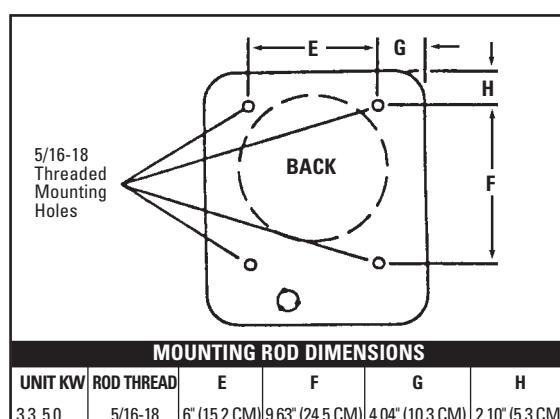

Figure 7. Vertical discharge rod spacing
1. Install four 5/16-18 threaded rods into the threaded holes in the back of the heater and secure in place using lock (jam) nuts (Figure 7).